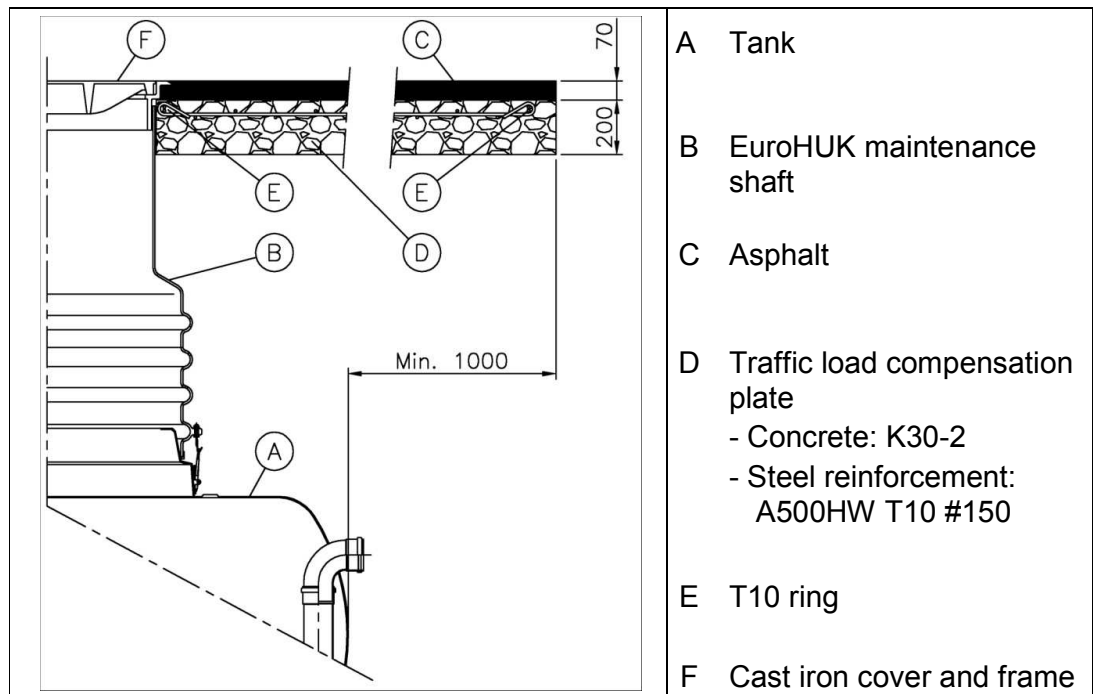

Figure 8. Structure of the load compensation slab.
4. In an area of heavy and medium weight traffic, a load compensation plate and a layer of asphalt must be laid to equalize the wheel loads (Figure 8).